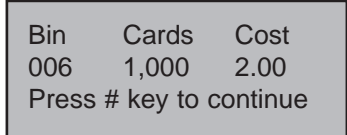

Figure 5
9. Check all entered information (Figure 5). Press # key.
6. Check all entered information (Figure 5). Press # key.